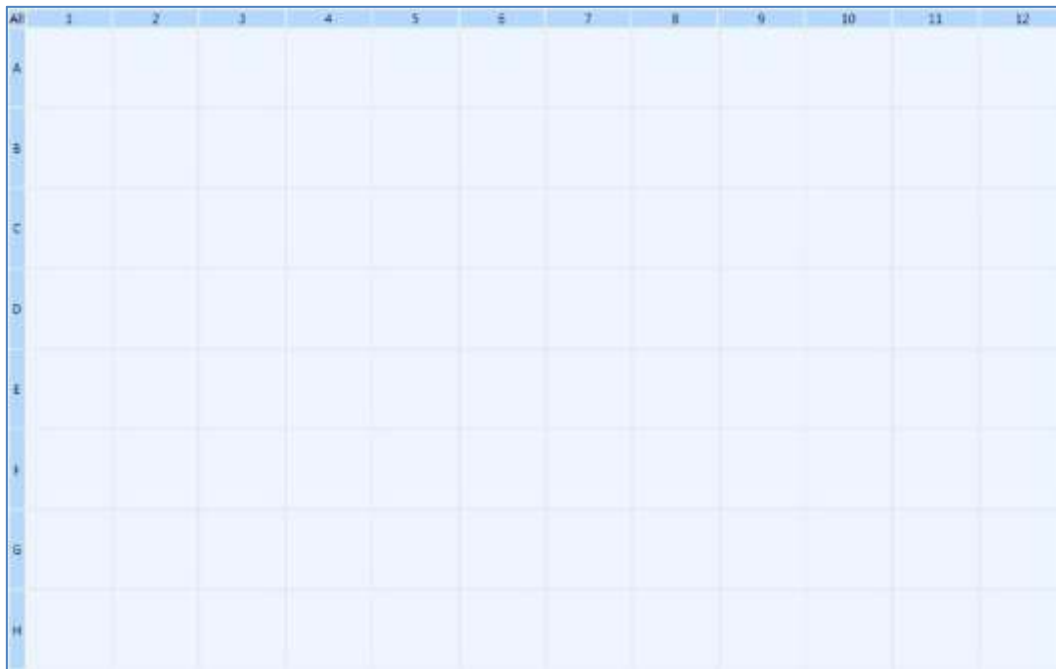

Figure D-6.1 Sample Setting interface - Sample Setting area
- 1. **Sample Setting Area:** After entering the sample setting interface, users shall first choose a sample well in the sample setting area, as shown in figure D-6.1. The well distribution in sample setting area corresponds to the sample block well distribution in loading platform. There are 96 sample wells in total arranged in 12 columns (1-12) and 8 rows (A-H).